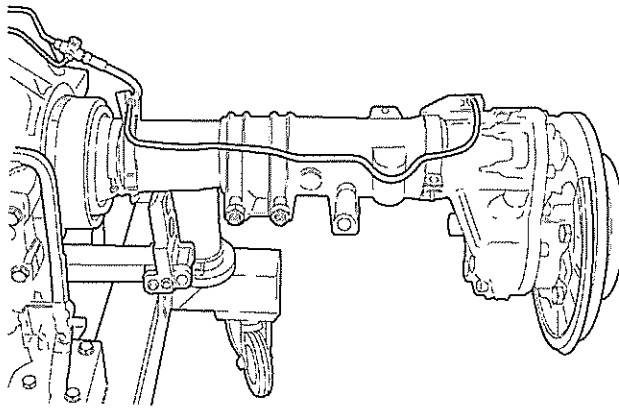

Fig. 10 Brake Hose Connections
6.5 Mark position of brake hose retainer on left and right half axle. Remove hose retainer fastening screws and unscrew left and right brake pipes at wheel drive retainers. Detach brake pipes and inner brake pipe retainers. Fit brake hoses to callipers temporarily (see Fig 10).